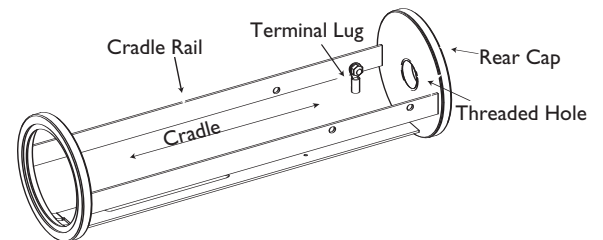

Figure 5: Power Connection
3. A screw, nut and terminal lug are provided for the safety ground. See **Figure 5**.